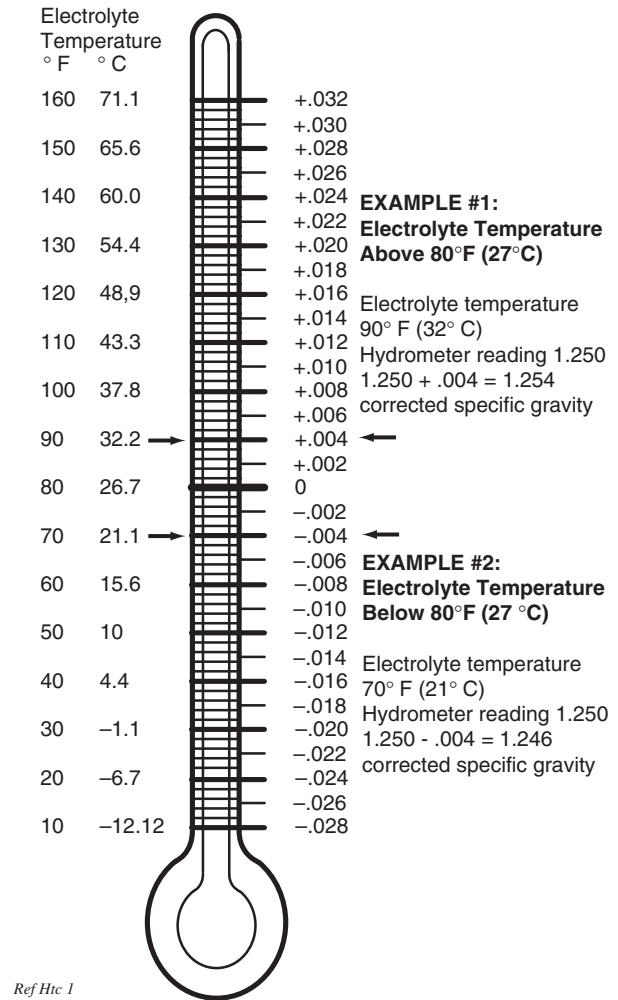

Fig. 29 Hydrometer Temperature Correction
4. Add or subtract four points (.004) to the reading for every 10° F (6° C) the electrolyte temperature is above or below 80° F (27° C). Adjust the reading to conform with the electrolyte temperature, e.g., if the reading indicates a specific gravity of 1.250 and the electrolyte temperature is 90° F (32° C), **add** four points (.004) to the 1.250 which gives a corrected reading of 1.254. Similarly if the temperature was 70° F (21° C), **subtract** four points (.004) from the 1.250 to give a corrected reading of 1.246 (Ref Fig. 29 on page 24).